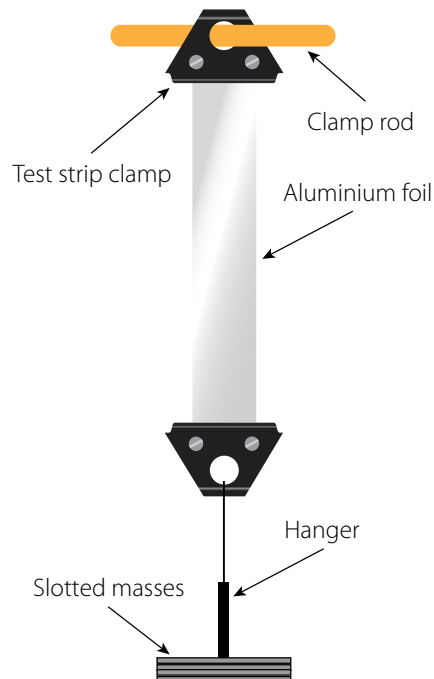

Figure 3
- Secure one end to a clamp rod and hang a 100 g holder from its bottom end: see Figure 3.